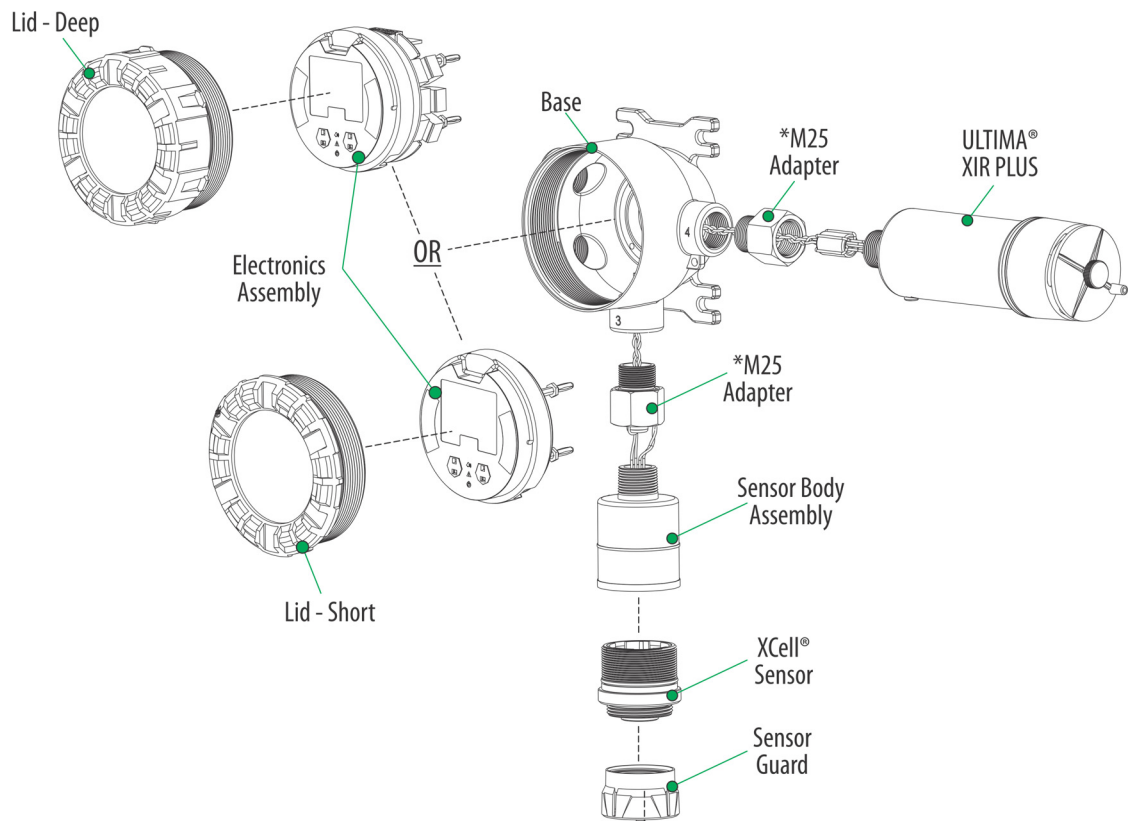

Fig. 3 Component Overview
- ▶ Follow the warnings below when removing or replacing sensors. Reference Fig. 3 for component overview.